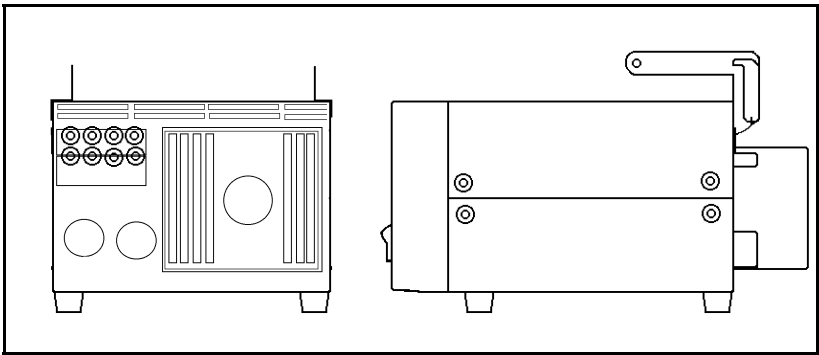

Figure 9 - Retainer Bracket Installation
2. Remove the two screws installed in the upper right and left hand corners of the power supply and install the two retainer brackets. Re-tighten screws securely. (Refer to Figure 9.)